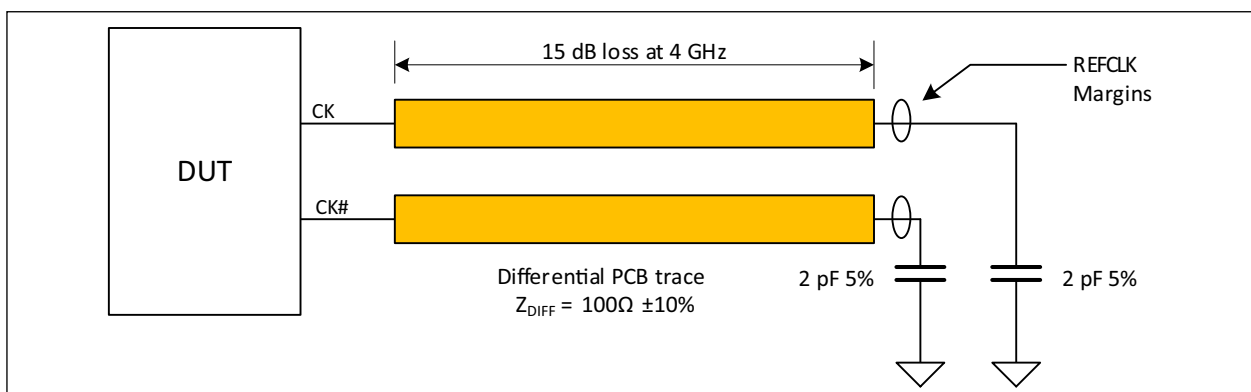

FIGURE 1-7: PCIe Test Load.
- 11:** System board compliance measurements must use the test load card described in Figure 1-7. $OUTx_p$ and $OUTx_n$ are to be measured at the load capacitors C_{LOAD} . Single-ended probes must be used for measurements requiring single-ended measurements. Either single-ended probes with math or differential probe can be used for differential measurements. Test load $C_{LOAD} = 2\text{ pF}$.
Note 1: Measured into AC test load as per Figure 1-7.